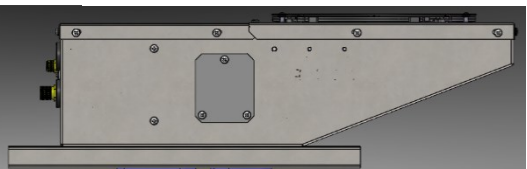

Figure 4 Mounting position 2
- ii Extending past rear of unit based on power pack install or replacement of similar unit seen in Figure 4 Mounting position 2